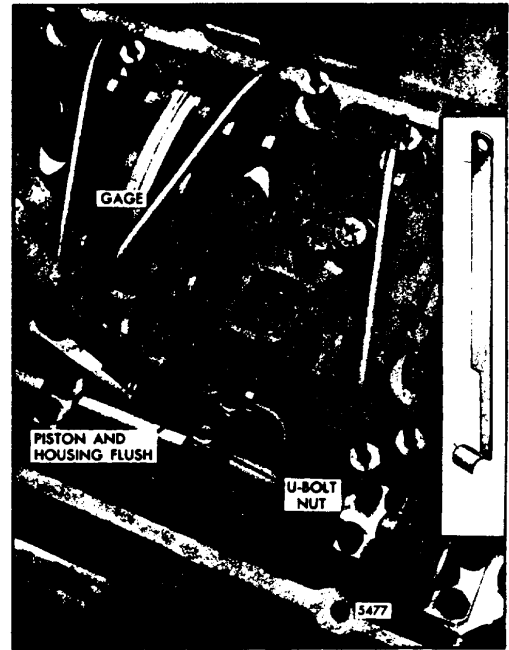

Fig. 3- Adjusting Throttle Delay Cylinder
1. Refer to Fig. 3 and insert gage J 23190 (.454 " setting) between the injector body and the shoulder on the injector rack. Then exert a light pressure on the injector control tube in the direction of full fuel.